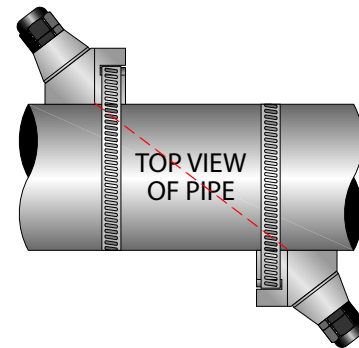

Figure 25: Z-Mount transducer placement
The DTTR, DTTN, DTTH and DTTL transducers must be properly oriented and spaced on the pipe to provide optimum reliability and performance. On horizontal pipes, when Z-Mount is required, the transducers should be mounted 180 radial degrees from one another and at least 45 degrees from the top-dead-center and bottom-dead-center of the pipe. See *Figure 25 on page 24*. Also see “Z-Mount Installation” on page 23. On vertical pipes the orientation is not critical.
7. Place the downstream transducer on the pipe at the calculated transducer spacing. See Figure 25. Using firm hand pressure, slowly move the transducer both towards and away from the upstream transducer while observing signal strength. Clamp the transducer at the position where the highest signal strength is observed. A signal strength percentage between 10...98 is acceptable.